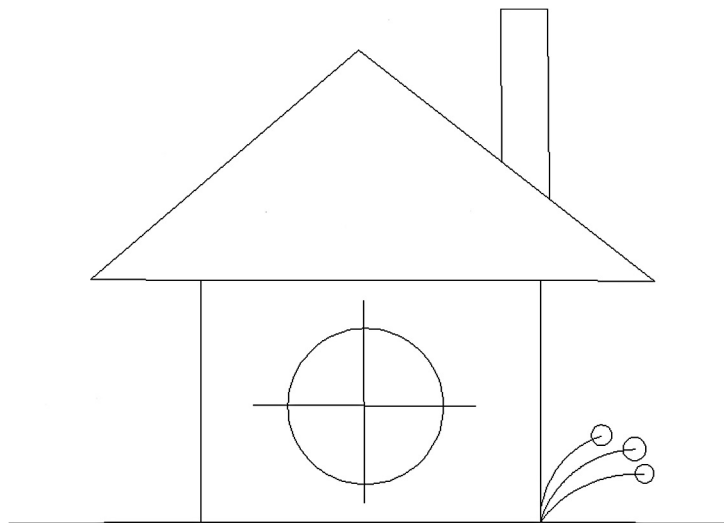

FIGURE 1.20
So, let us put all of this to good use. Create the drawing shown in Figure 1.20. Use the rectangle, line,
Step 2. Select any object from the house in the previous drawing assignment (Figure 1.20) by taking the mouse, positioning it over that object (not in the empty space), and left-clicking once.